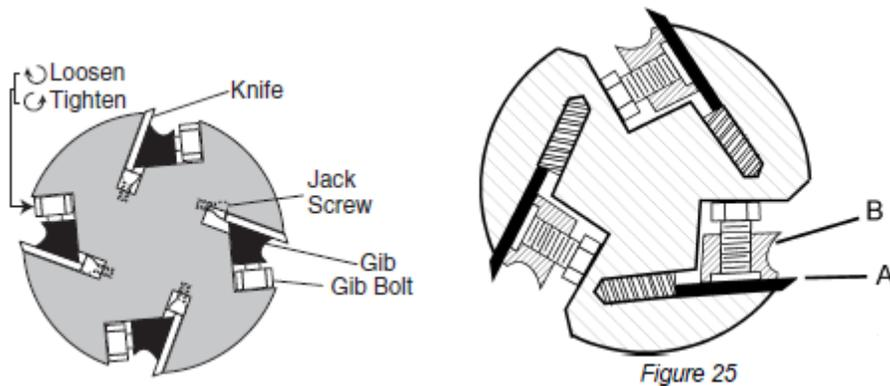

Figure 25
3. Loosen the five lock screws (Fig. 24). Note: Loosen screws by turning in a clockwise direction as viewed from the infeed table. Carefully remove the knife (A, Fig. 25), and the lock bar with screws (B, Fig. 25). Repeat for the other two blades.